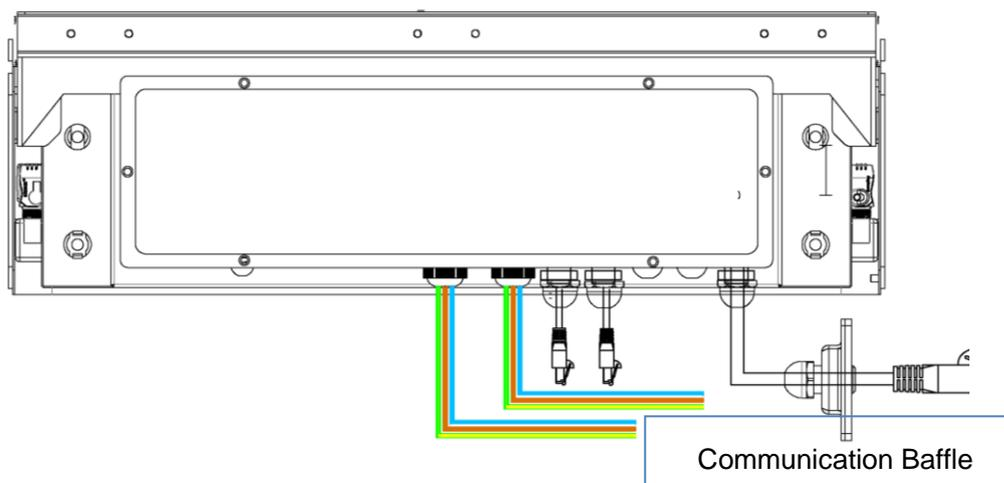

Figure 22 Inverter Wiring Completion Diagram
Step 14: Lock the cable box back cover, leave the power line and communication line hang on the outside. Follow the diagram, pass the BAT-communication cable through the battery communication baffle in Step 2 and connect an RJ45 connector, see Figure 22.